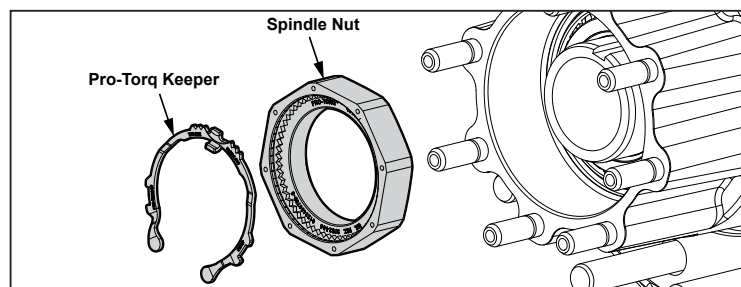

Figure 5
1. Remove the Pro-Torq (orange) keeper and set aside for reinstallation (see Figure 5).
11. Compress and insert the keeper arms, one at a time, into the undercut groove (see Figure 5).